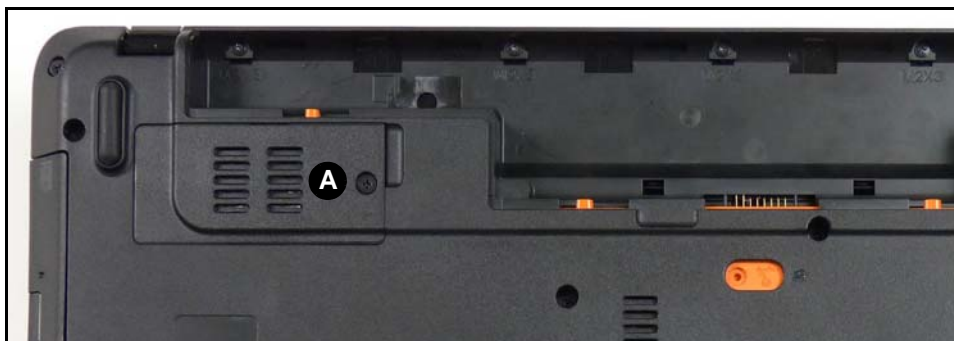

Figure 3-8. 3G Module Cover Door
2. Loosen captive screw (A) (Figure 3-8).
5. Secure captive screw (A). Refer to Figure 3-8.